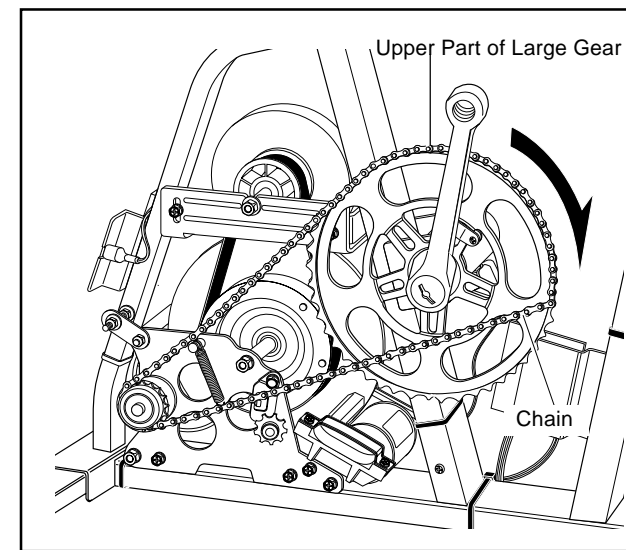

Fig. 5
4. The chain should be first set on the free wheel, and then on the upper part of the large gear. A forward rotation of the crank will enable the complete setting of the gear. (Fig. 5)